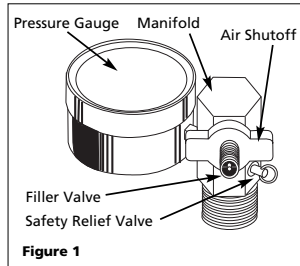

Figure 1
2. Press chuck from air source onto filler valve located on the side of the brass manifold (See Figure 1). Fill tank to a maximum of 125 psi as indicated on pressure gauge. The safety relief valve is preset to 135 psi to prevent overfilling.